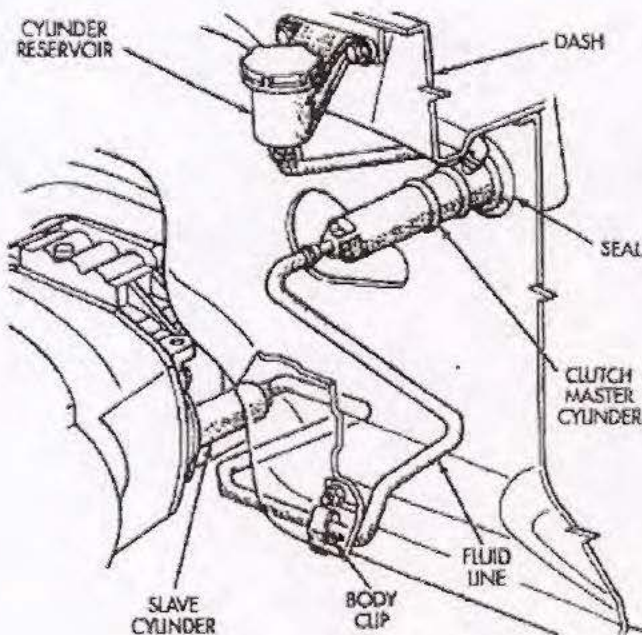

Figure 1
Would you provide me assistance as how I can get resolution from Daimler-Chrysler to trade my 2001 Ram truck V10-4wd (vin # 3B7KF26W61M [REDACTED]) that exploded on HWY 15 and was towed to my home on Oct. 26, 2022 (Fig. 1). The nature of the explosion for my RAM is described in Safety Recall #828. (Fig. 2) On 9/20/02, Worthington Dodge of Carlsbad, CA (92008) repaired the recalls existing on my RAM truck. (Fig. 3) I recall the service manager telling me the fire problem would be fixed by one of Worthington's specialist on Safety Recalls. Daimler-Chrysler paid for fixing the recalls.
2. Remove the nuts that attach the clutch slave cylinder to the clutch housing (Figure 1).
4. Remove the clutch line clip(s) from the lower body flange (Figure 1).
12. Remove the two (2) clutch reservoir mounting screws (Figure 1).
13. Remove the clutch master cylinder as follows (Figure 1):